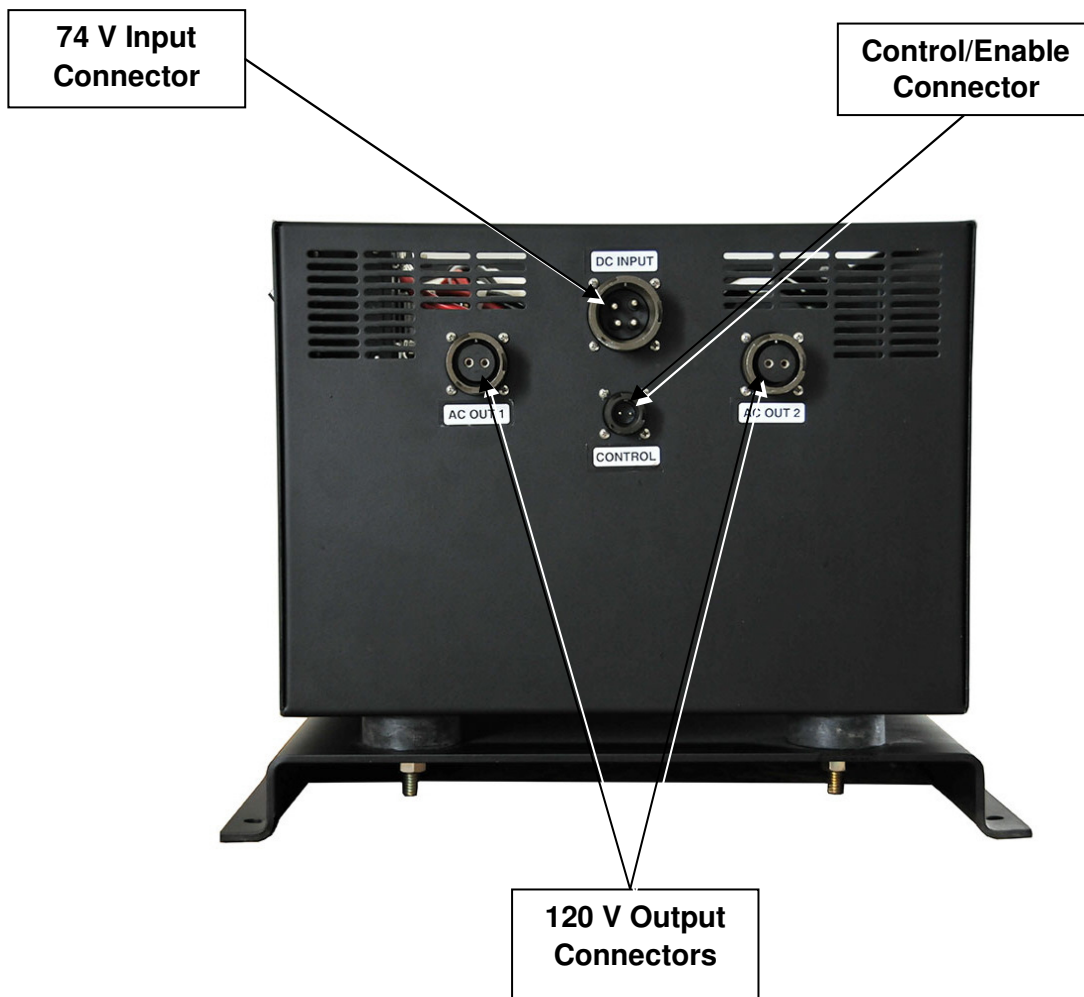

Figure 5: Interface Connectors
▲ DANGER: If the unit has already been installed and prior to the removal of the top cover, make sure that the DC INPUT CONNECTOR AND CONTROL CONNECTOR (see Figure 5) have been disconnected and that the dc CIRCUIT BREAKERS (see Figure 10) have been shut off.
1.65 RIGHT SIDE VIEW - INTERFACE CONNECTORS – See Figure 5
These ITT/Cannon bayonet-lock connectors provide the Input, Output and Control Interfaces with the equipment. The Input connector accepts 74 V DC to the Inverter while the two Output connectors provide separate 120 V AC outputs to power two Air Conditioners. The Control output is in effect an ON/OFF switch to control the output of the Inverter. See Figure 5 for connector location/arrangement.
DANGER: Prior to the replacement of the Power Module , make sure that the DC INPUT CONNECTOR AND CONTROL CONNECTOR (see Figure 5) have been disconnected and that the DC CIRCUIT BREAKERS (see Figure 10) have been shut off.
- Disconnect the 74 V DC Input Plug from the Input connector, see Figure 5.